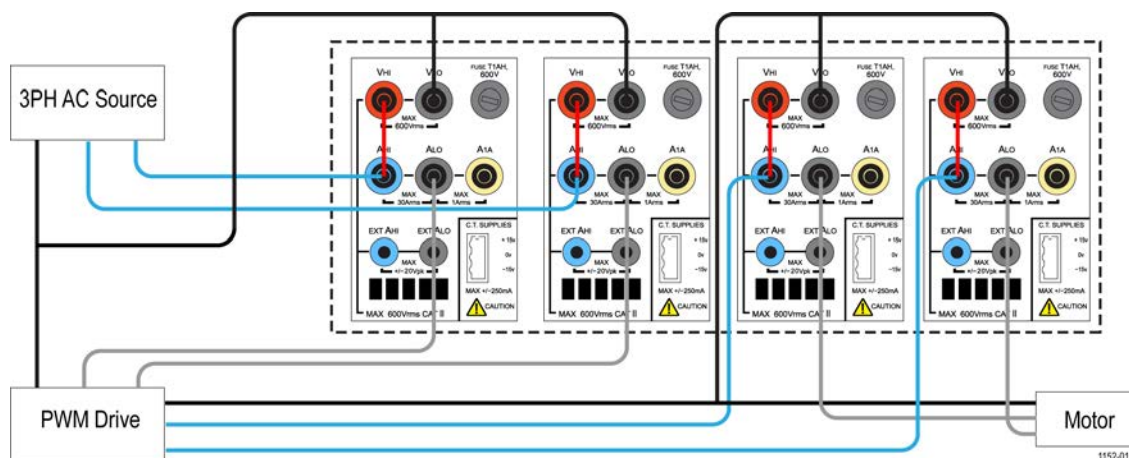

Figure 47: PWM Motor drive efficiency (3 phase in and 3 phase out)
1. Connect the three phase AC input of the PWM motor drive to the first two channels of the PA3000 as shown in wiring diagram. (See Figure 47.)